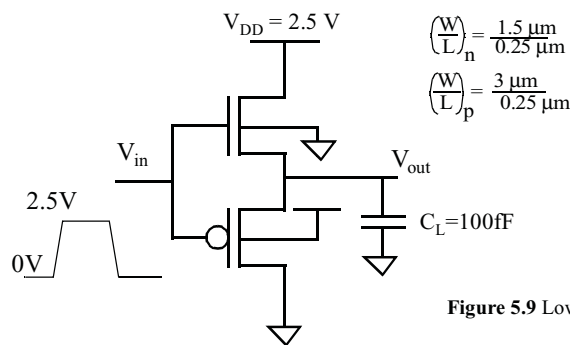

Figure 5.9 Low Swing Driver
- (i) Why the slope for (1) is less than 1?
12. Consider the low swing driver of Figure 5.9: